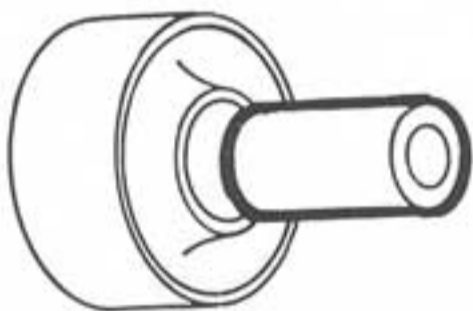

Fig. 1
- Inspect the upper engine mounting flexible bushings and insulation ring for good condition (fig. 1).